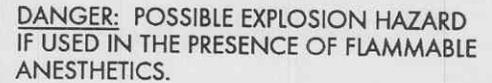

Figure 1-9. Hazard information.
(2) Imprinting providing hazard information (located on each side of the endoscopic instrument light) is depicted in figure 1-9.